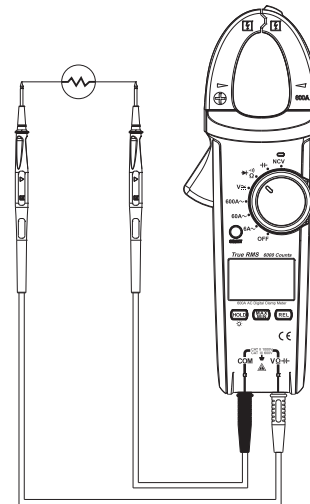

Figure 8
6. Diode measurement (See Figure 8)